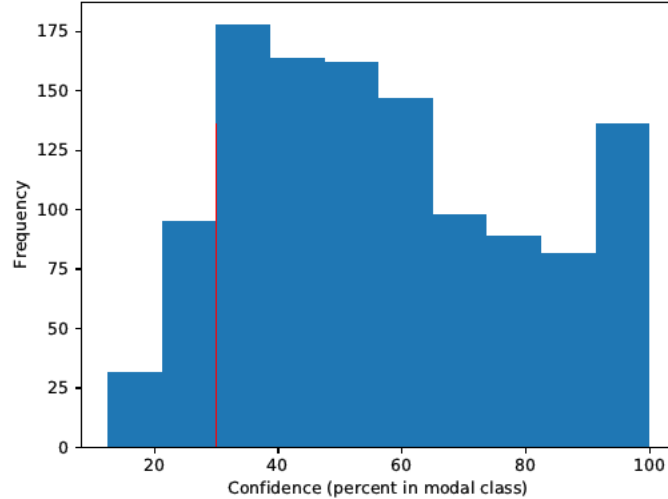

Figure 7: Histogram of the confidence of seam class assignment for each microtubule, from an example dataset.
-c is the cutoff for the percent confidence in seam assignment for each microtubule, where any microtubule with a confidence below the cutoff is discarded. As per PF sorting, the confidence in seam class assignment for each microtubule ($\text{modal class} \div \text{total number of particles} \times 100$) is calculated and plotted as a histogram in External/job_id/confidence.pdf (figure7). The right line shows the cutoff, and after seeing your distribution, you may wish to alter the cutoff to be more or less inclusive.